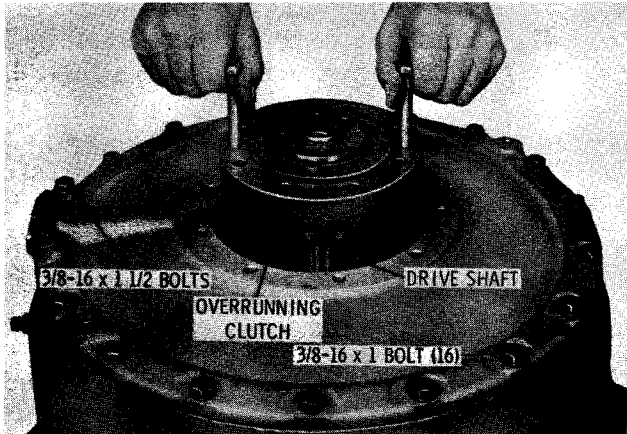

Fig. 5-8. Removing (or installing) over-running clutch and drive shaft assembly
(1) Remove nine bolts 23 (B, foldout 13) and lockwashers 22 from converter housing cover cap 21. Remove cap and gasket 20.
(2) Remove lockwire 1 (fig. 5-7) and eight bolts 6 that retain outer race 5. Install two 1/4-28 or 3/8-24 bolts into puller bolt holes 7 and remove the over-running clutch and drive shaft as a unit (fig. 5-8).